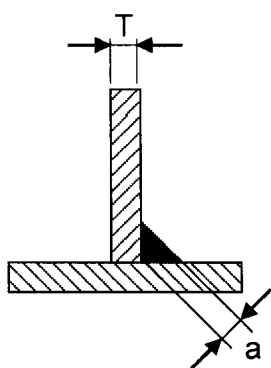

Figure 1. Weld one side
- 2.1 Description: The weld sizing for the various areas is as follows and as shown on charts A and B and Figure 1 and 2.